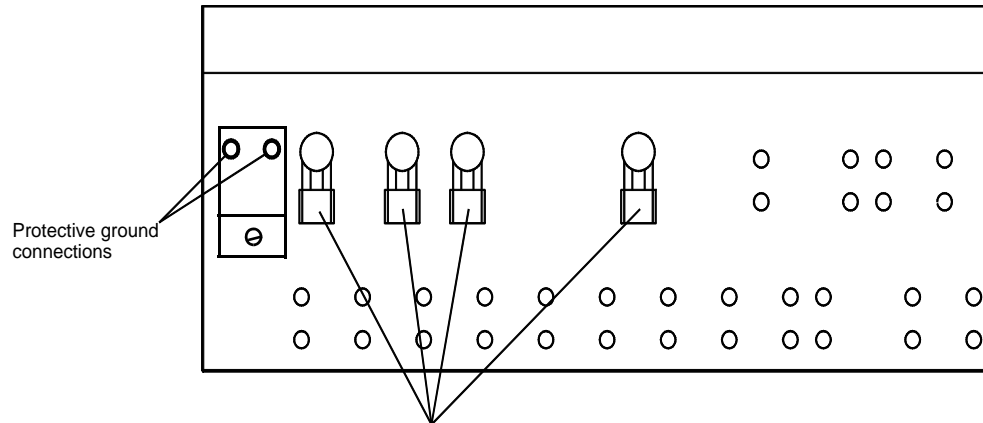
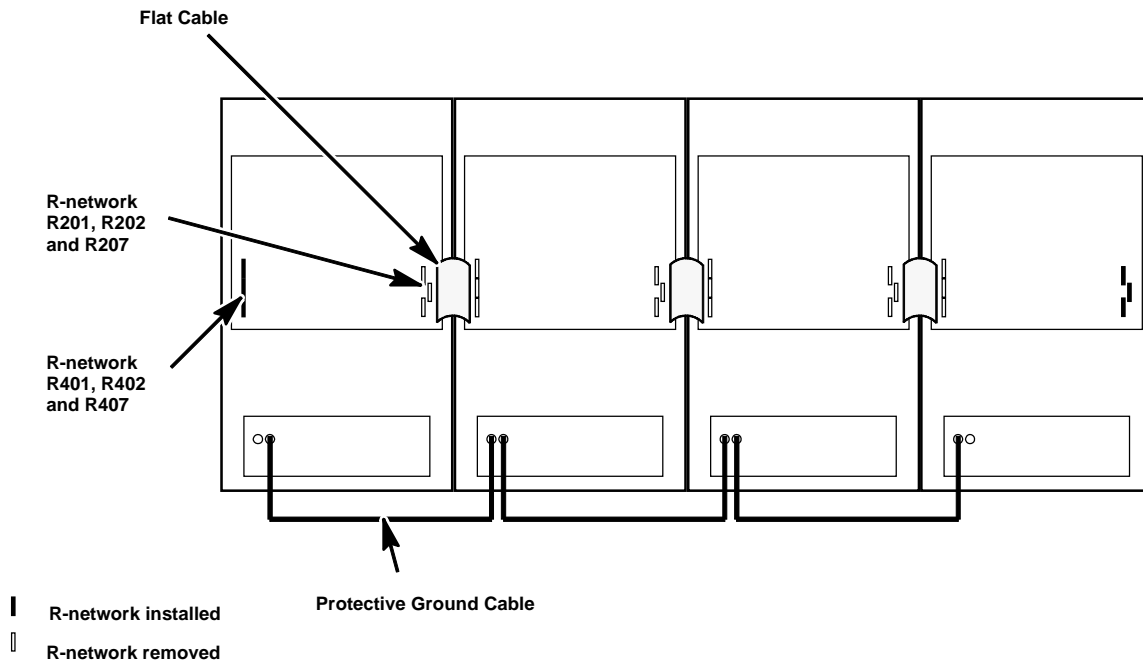

Fig. 4-8 Ground Plate
Fig. 4-9 Example of Interconnecting the System Bus and the Ground Plates
After the Modular Cabinets have been mounted to the wall, the backplanes of the cabinets have to be interconnected using the flat ribbon cable from the interconnection set, NTMNB 101 105 (see Figure 4-9). Install one end of the cable in one of the cabinets. Feed the other end of the cable through the sides of the cabinets and insert it into the connector on the back plane. Make sure the connector's latch closes.
Ensure that an earth ground has been run to cabinet #1 (see Figure 4-8). Take the green/yellow ground cable from the interconnection set and connect the cable from the ground plate of the first cabinet to the ground plate of the second cabinet. Continue connecting the ground cables to the third and fourth cabinets as they are installed (see Figure 4-9).
The system bus on the backplane is terminated on both sides with R-networks in a SIL socket. When the Modular Cabinets are connected together, R-networks must be present only at both ends of the extended bus (see Figure 4-9).
- Locate the (3) termination resistors, R401, R402, and R407 on the backplane. Refer to Figures 4-9 and 4-10. With a pair of needle nose pliers pull the resistor packs up off the sockets on the backplane. DO THIS CAREFULLY. Save the resistors.
- Remove the (3) termination resistors, R201, R202, and R207, from the right hand side of the backplane. Refer to Figures 4-9 and 4-10. DO THIS CAREFULLY. Save the resistors.